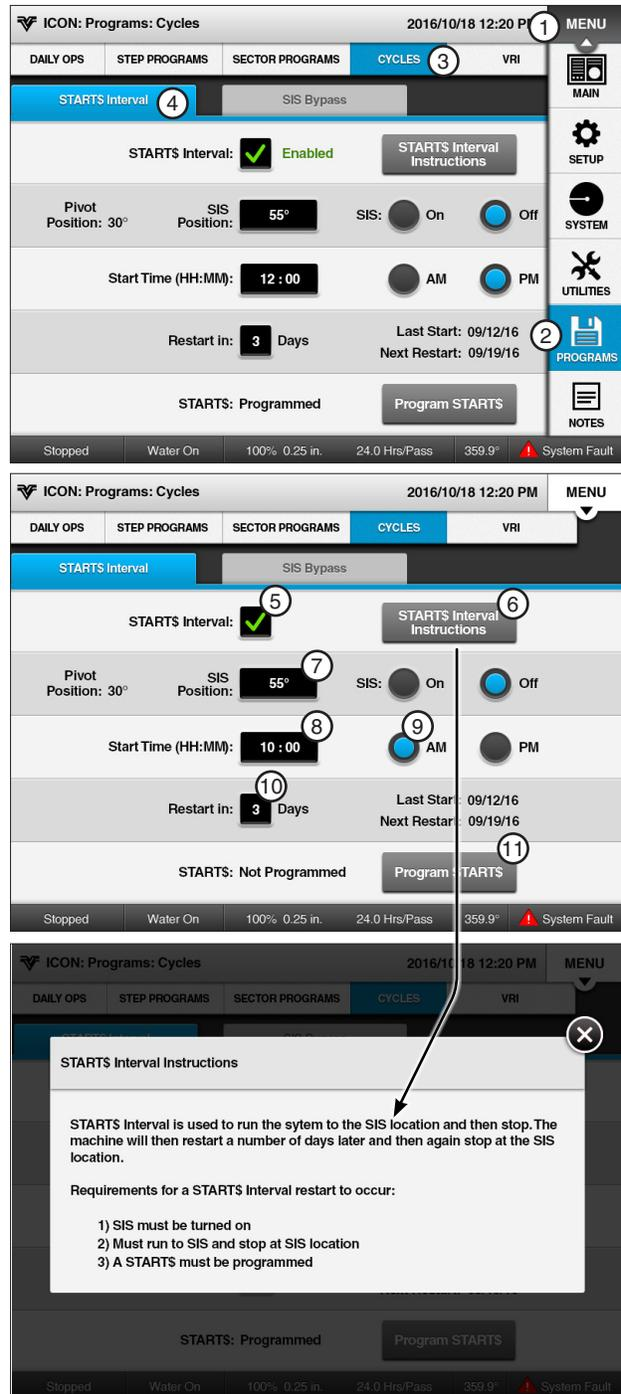

Figure 154-1 1. Menu
1. Push **Menu**, **Programs**, **Cycles** and **START\$ Interval** to view the START\$ Interval screen. Refer to Figure 154-1.